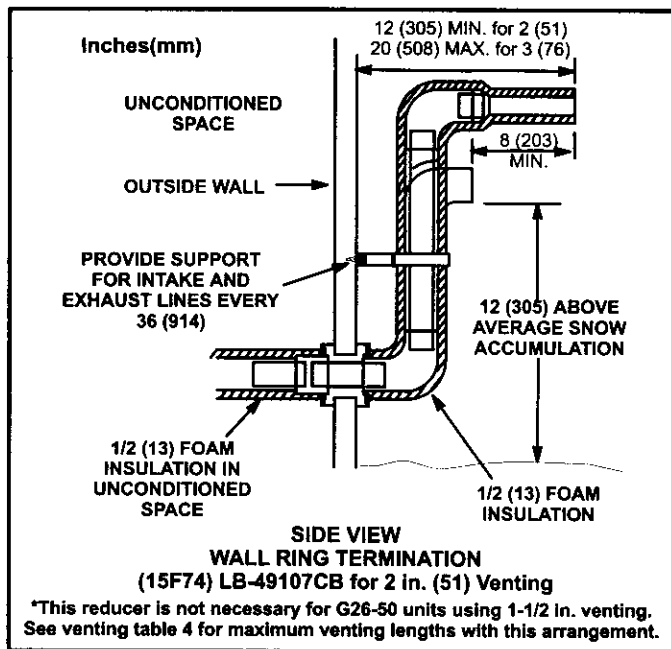
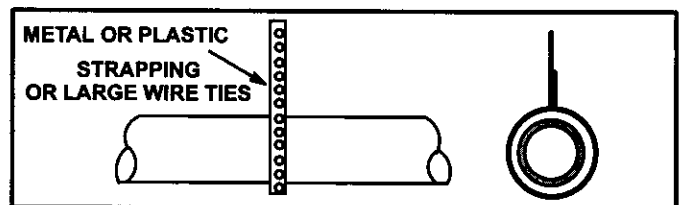
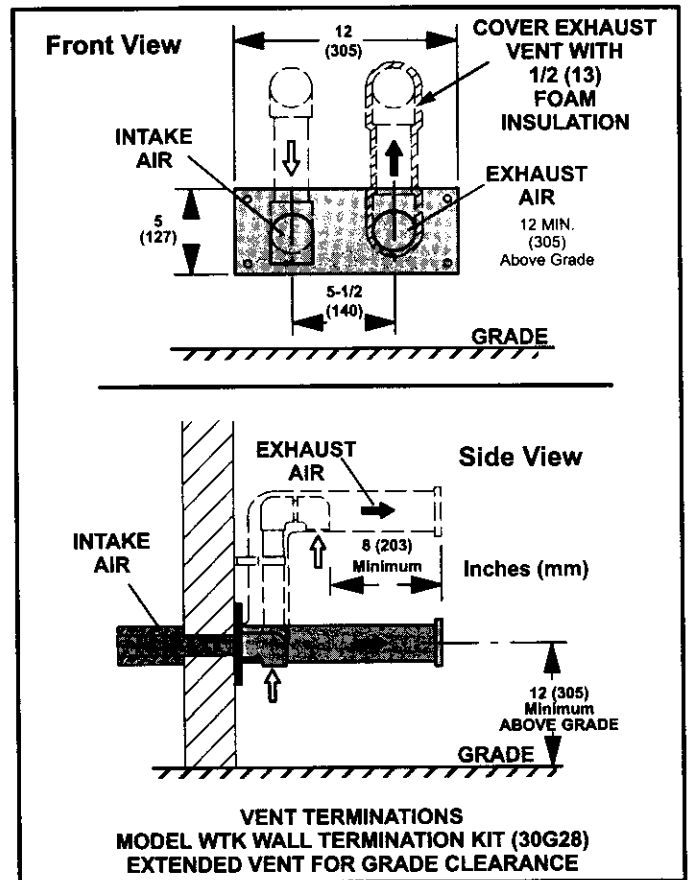
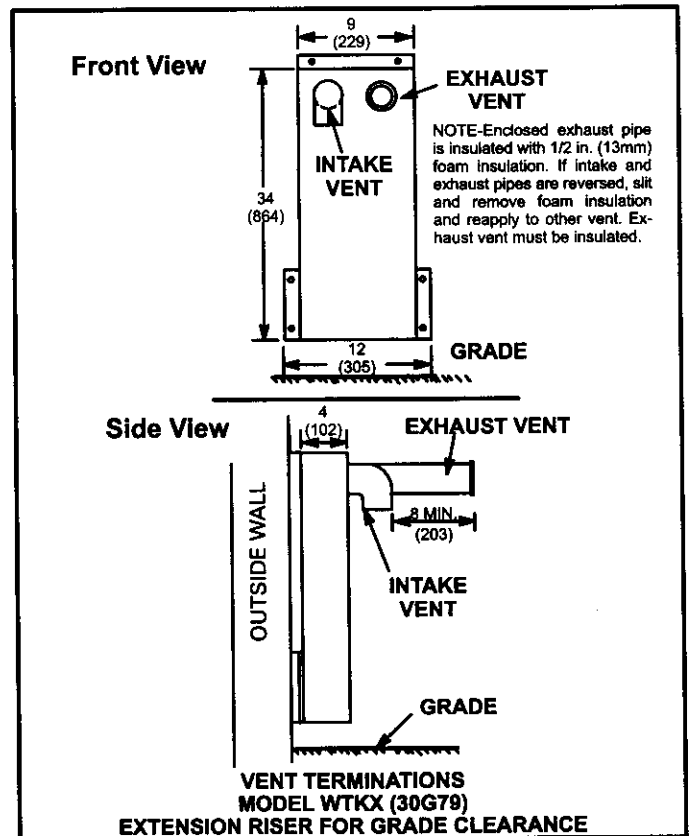

FIGURE 13
FIGURE 15
FIGURE 18
FIGURE 19
- 8 - If intake and exhaust piping must be run up a side wall to position above snow accumulation or other obstructions. Piping must be supported every 3 feet (.91m) as shown in figure 15. Refer to figures 13 and 14 for proper piping method. WTK wall termination kit must be extended for use in this application. See figure 18 or use kit WTKX shown in figure 19. When exhaust and intake piping must be run up an outside wall, the exhaust piping is reduced to 1-1/2 inches (38mm) after the final elbow. The intake piping may be equipped with a 90° elbow turndown. Using turn-down will add 5 feet (1.5m) to the equivalent length of the pipe.